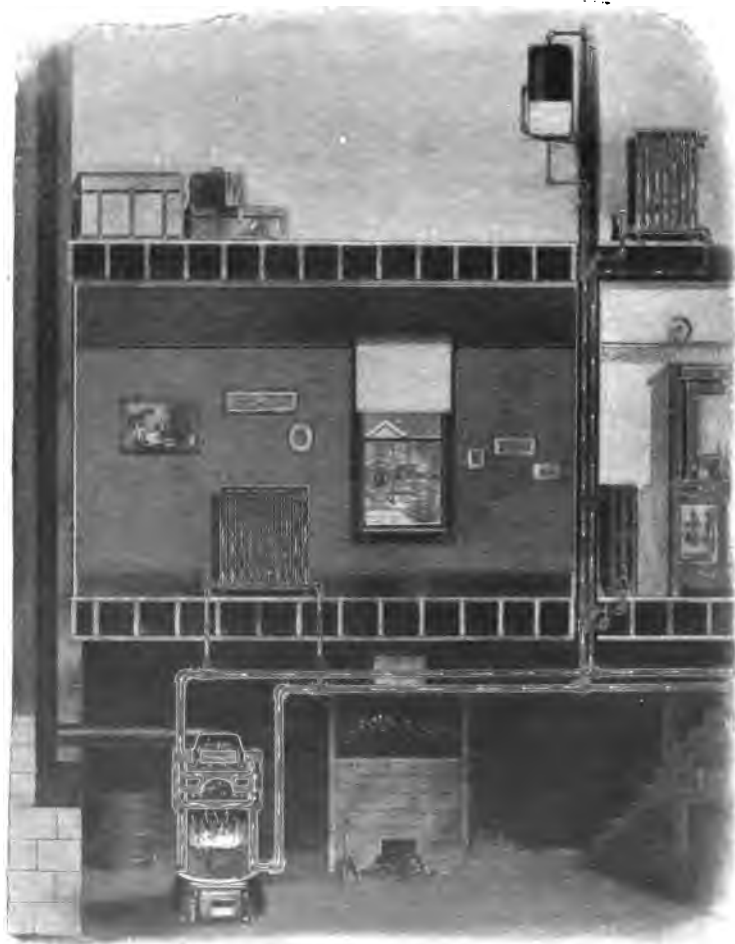

FIG. 14. — Hot-water heating.
10. Hot Water. The hot air which rises from furnaces often carries with it disagreeable dust, and hence furnace heating is being largely supplanted by hot-water heating (Fig. 14). The real labor involved in the two types of heating is practically the same, since coal must be fed to the fire and ashes must be removed, but the hot-water system has the advantages of cleanliness and economy. After the water in the radiators